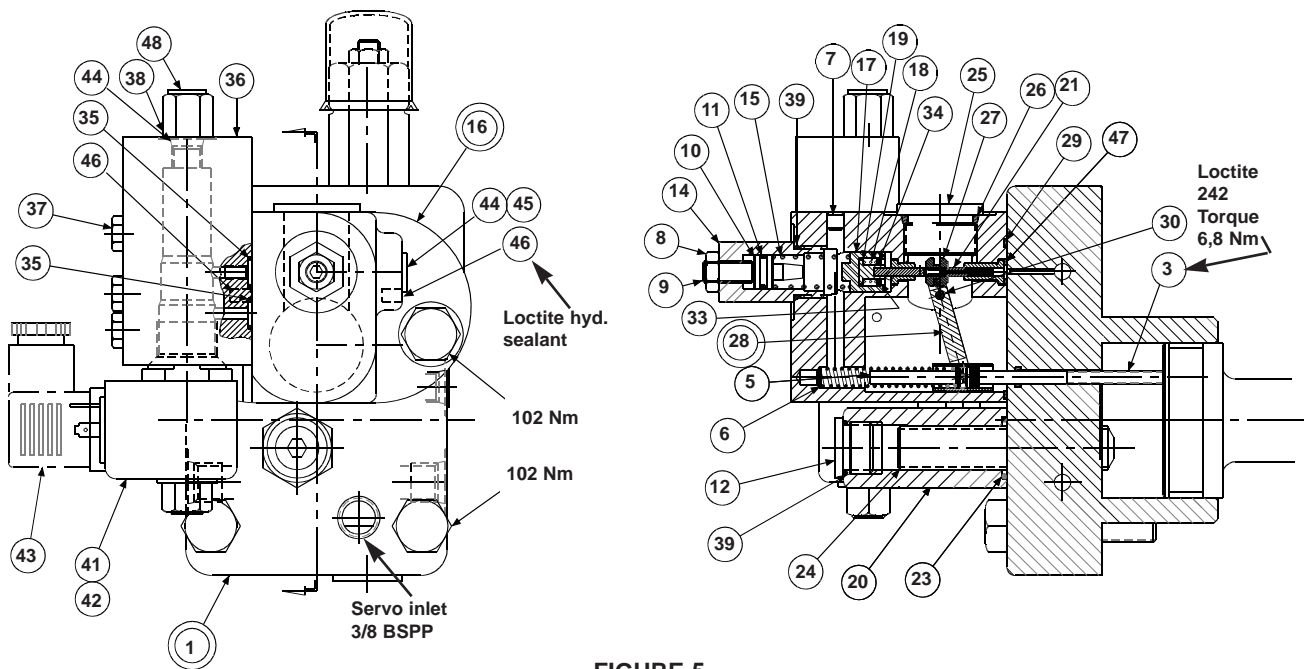
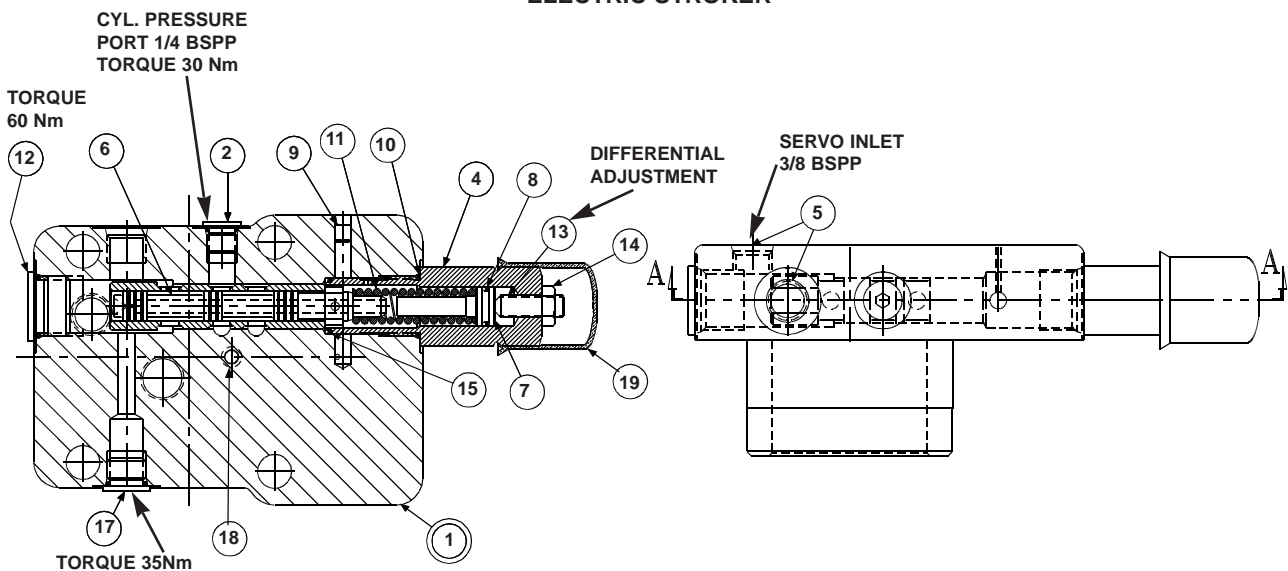

FIGURE 5
FIGURE 6
1. **See Figure 5.** Remove 3 screws (37) holding block (36) to body (16).
2. Remove 2 screws holding body (16) to cap assembly (1).
3. Remove all parts from body (16) except pin (30) and arm assembly (28). It is not necessary to remove these parts unless broken or worn. Examine parts for wear or damage.
4. Remove screw (3). Examine head for excessive wear, and body for smooth sealing surface with O-ring.
5. **See Figure 6.** Remove tube lines to cap assembly.
7. Remove cap assembly (1). Remove plug (4) with attached parts. Remove spring (11) and spool (6).
8. Do not remove sleeve in body (1). Sleeve is pressed into cap and finished to size. If sleeve or cap is worn, replace the cap-sleeve assembly (1).
9. Remove cap (19), screw (13) and nut (14). Remove the retainer (7).
1. **See Figure 6.** Install Avseal plug (9) in cap.
2. Install spool (6) into bore as shown. Install spring (11) over end of spool.
3. Install O-ring (8) on spring retainer (7). Install retainer (7), screw (13), and nut (14) in plug (4).
4. Install O-ring (15) in bottom of bore as shown. Install O-ring (10) on plug (4). Install plugs (4) and (12) in body (1). Torque plugs to 60 N m. Install O-ring (18) in cap.
5. Turn screw (13) in until spring retainer (7) contacts spring (11). Turn an additional 1-1/2 turns and lock in position.
8. **See Figure 5.** Apply Loctite 242 on threads of screw (3), lubricate the shank, thread through the cap into the control piston, and torque to 6,78 N m.
9. Install minimum stop screw (24) and turn clockwise to stroke pump to full volume. Measure height from control cap to top of screw (3). With control piston at full stroke, dimension must be 19,2 +/- 0,76 mm. Back out minimum stop screw (24) till there is no contact with control piston.
10. Press dowel (30) into body (16), through the link (28), to 6,35 mm below surface, apply Loctite hydraulic sealant to threads of screws (46) and install over dowel (30).
11. Press spool (21) into retainer (19). Caution: do not use excessive force. Place spool/retainer assembly into spool (17) with spring (18) and washer (34). Secure with retaining ring (33).
12. While sleeve (27) is engaged into dowel on link (28), slide above spool assembly into bore of body (16), and through sleeve (27). Spool (21) must move freely and easily at all positions of the link (28).
13. Install proportional valve (41) in block. Torque to 27 N m.
15. Assemble all other components into body (16) per Figure 5. Torque the plug (12) to 60 N m.
16. While spring retainer is engaging clevis pin (5) under dowel of link (28), slide the other opening of spring retainer over the top of the screw (3). Attach body assembly (16) to cap (1) with two screws and torque to 102 N m.
7. If pump fails to go towards full stroke, or fails to go towards zero stroke, differential pressure may be improperly adjusted. Re-adjust the screw (13 figure 6) out to go towards full or in to go towards zero flow. When correct, lock in place and install cap on differential adjustment.
PARTS LIST FOR FIGURE 5*electric stroker S22-15610*
PARTS LIST FOR FIGURE 6*servo cap S22-15619*